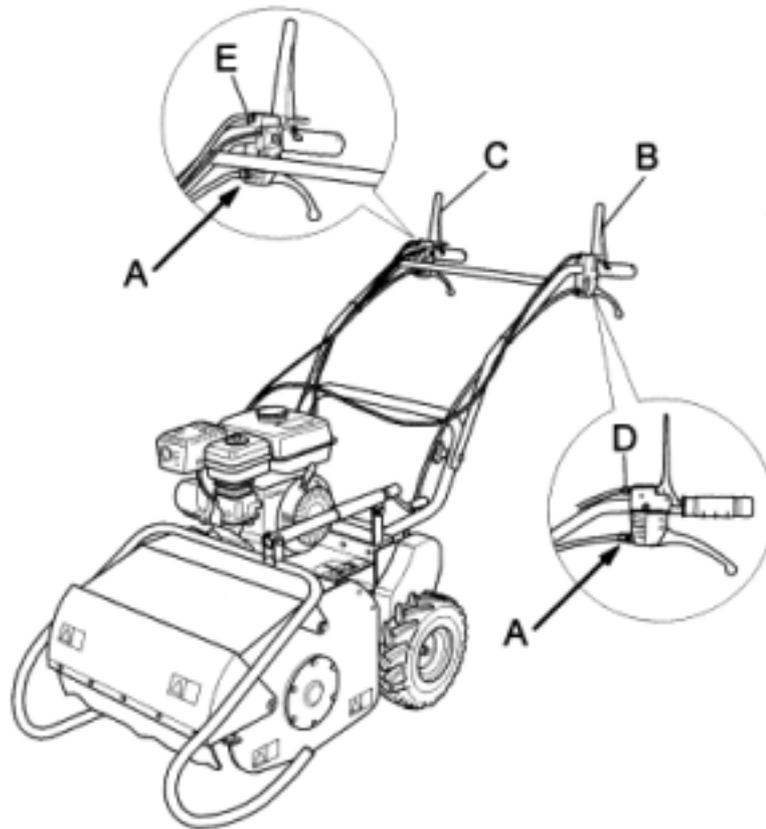
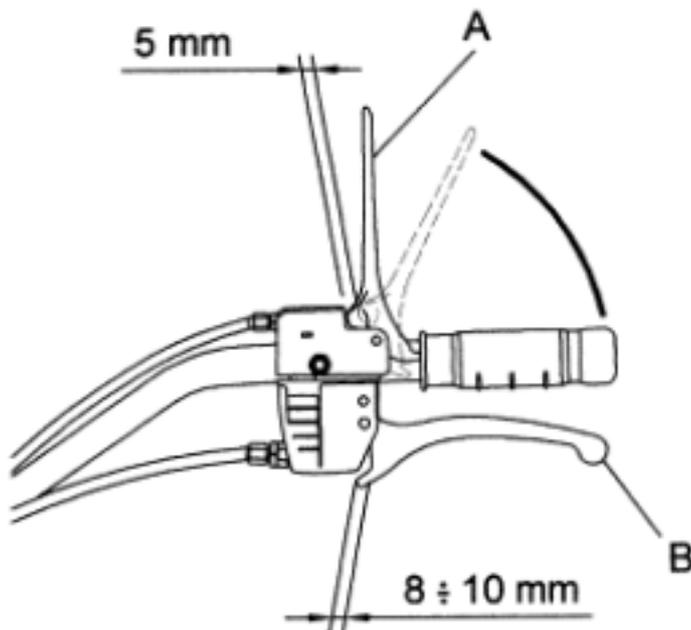

Fig. 4
Fig. 5
**B1) RIGHT AND LEFT WHEEL RELEASE CABLES ( FIG. 4 REF. A E FIG. 5 RIF. B)**
For the machine to operate correctly there must be a play of 8-10 mm on the right and left wheel release lever ( fig. 5, rif. B). If this is not the case, adjust the special screw ( fig. 4, ref. A) by loosening or tightening it.
**B2) FLAIL HOLDER ROTOR CONTROL CABLE ( FIG. 4 REF. B)**
For the machine to operate correctly there must be a play of 5-6mm ( fig. 5, ref. A) on the flail lever. If this is not the case, adjust the special screw ( fig. 4, ref. D) by loosening or tightening it.
This check can also be performed using the flail holder rotor control lever. In fact, if when lowered a certain resistance is felt immediately, remaining constant to the end of its stroke, it is caused by the fact that the brake cable does not have the necessary play for its operation. Figure 5, ref. A shows the optimum working condition. Hence the first part of the lever stroke for approximately 5 mm (broken line) presents a lower resistance compared to that of the second part (solid line).
### B3) Forward control cable (Fig. 4 ref. C)
For the machine to operate correctly there must be a play of 5-6mm ( fig. 5, rif. A) on the forward control lever of the machine ( fig. 5, ref. A). If this is not the case, adjust the special screw ( fig. 4, ref. E ) by loosening or tightening it.
- Then repeat the same check, this time keeping the wheel release lever raised ( fig. 5, ref. B). Now the pulley should be able to turn freely.
**THE TWO BRAKES ARE CORRECTLY ADJUSTED WHEN THE FLAIL ROTOR LEVER ( FIG. 4, REF. B) AND FORWARD CONTROL LEVER ( FIG. 4, REF. C) HAVE 5 MM OF PLAY AS INDICATED UNDER THE SECTION “ADJUSTMENT OF THE CONTROL CABLES”. SHOULD THE SAID BRAKES FAIL TO PERFORM THEIR SAFETY FUNCTION AFTER CORRECT LEVER ADJUSTMENT, CHECK THE STATE OF WEAR OF THE BRAKE LINING AND REPLACE THE BRAKES IF NECESSARY.**